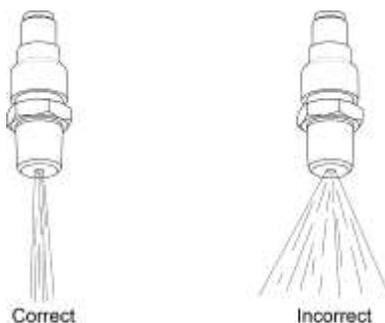

Figure 9
- G. Examine the fuel flow from each injection nozzle to make sure the fuel stream is not scattered (which is an indication of blockage in the injection nozzle) identified as “Incorrect” in Figure 9.